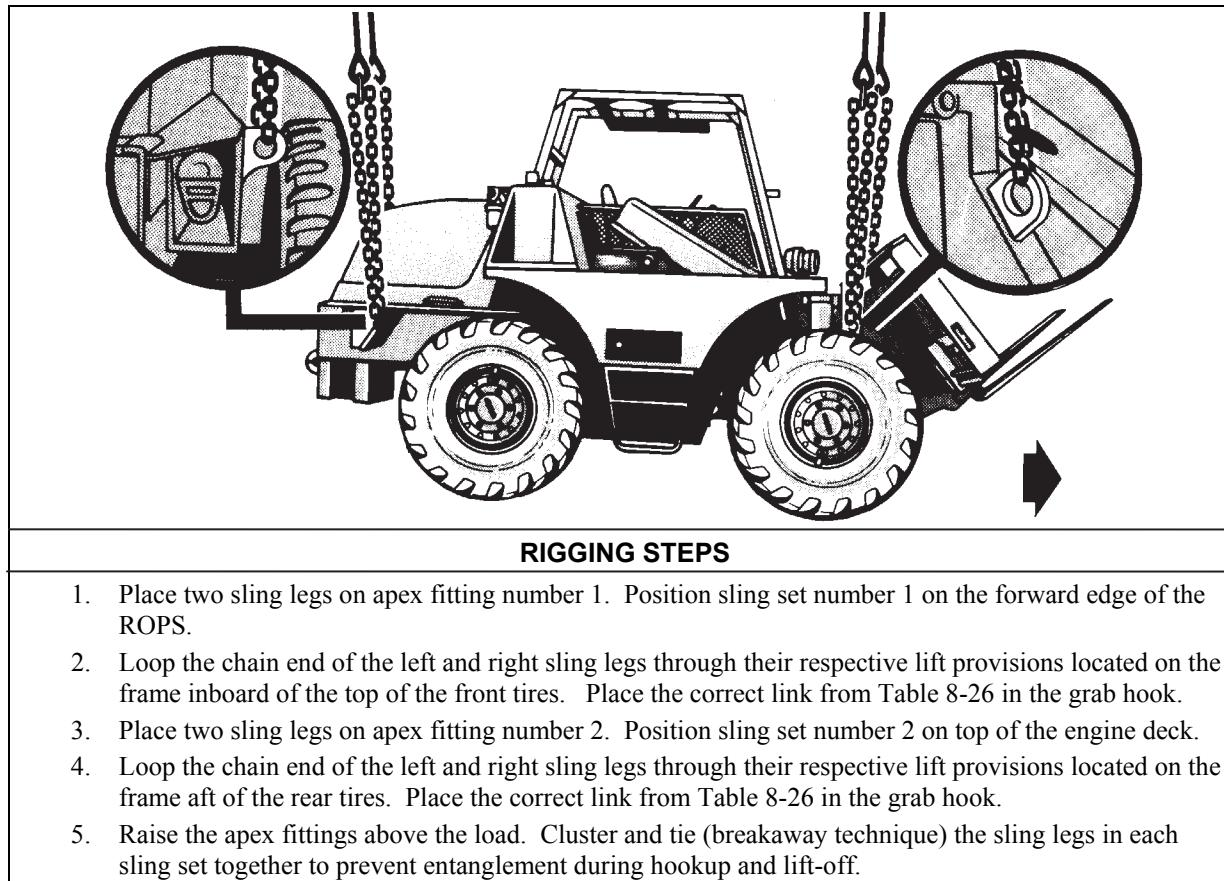

Figure 8-26. Truck, Forklift, MC-6000
- **Rigging.** Rig the load according to the steps in Figure 8-26.